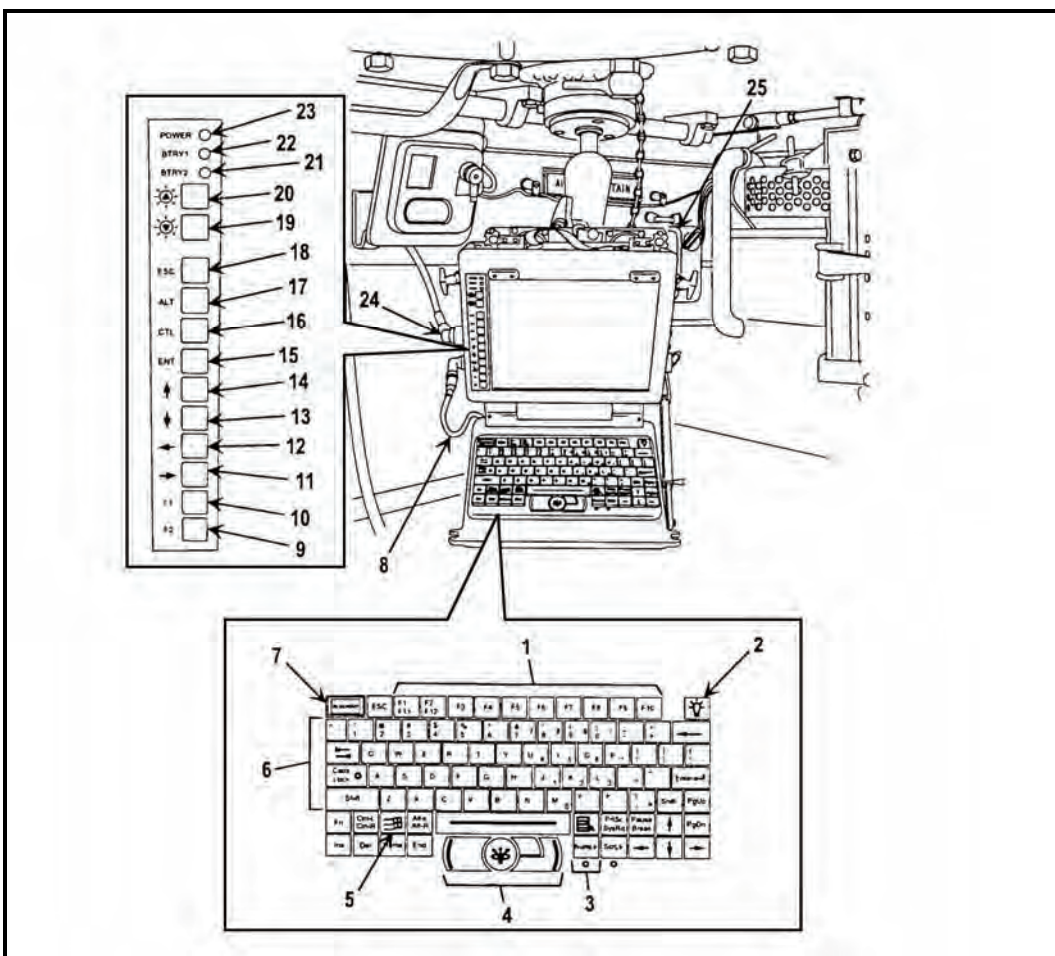

Figure 15-2. Commander's interface.
15-2. The CI (Figure 15-2) is a computer terminal that provides high-speed data processing, an LCD, and a QWERTY-style keyboard similar to that of a common personal computer. It has a built-in modem, allowing a wide variety of data exchange requirements. The operator works with the CI's graphic user interface (GUI) to operate the system using the built-in mouse or the keyboard to point and click buttons and tabs. Data are presented on screens designed for specific missions and operations. The CI's keys and their functions are as follows.
15-3. Although the primary method of operating the CI is the built-in mouse, the operator can use the F1 through F10 function keys (1, Figure 15-2) to make selections in the software (F11 and F12 are not used). Table 15-1 identifies the assignment of keys.
15-4. This control (2, Figure 15-2) adjusts the intensity of the light (with off, low, and high settings).
15-5. With blue numerals and arithmetic functions, these keys can be used as a number pad. Inadvertent use of the Number Lock (NUM LK) key (3, Figure 15-2) may result in the inability to perform other desired functions. When activated, the indicator light is illuminated.
15-6. The mouse (4, Figure 15-2) allows the operator to move the cursor on the screen and make selections.
15-7. The Windows key (5, Figure 15-2) is not used by the operator.
15-8. The alpha, numeric, and special character keys (6, Figure 15-2) function as a standard keyboard to compose messages and enable operators to enter data into the system.
15-9. The Blackout key (7, Figure 15-2) blacks out the screen to guard against enemy detection in a tactical environment.
15-10. The right, left, down, and up direction arrow keys (11 through 14, Figure 15-2) enable operators to make selections in the software. Mouse or keyboard use is recommended.
15-11. The Enter (ENT) key (15, Figure 15-2) brings up a menu of function keys.
15-12. The Control (CTL), Alternate (ALT), and Escape (ESC) keys (16 through 18, Figure 15-2) are not used in this application.
15-13. The screen brightness intensity buttons (19 and 20, Figure 15-2) decrease and increase the brightness of the LCD screen.
15-14. The Battery 1 (BTRY1, shown in 22, Figure 15-2) and Battery 2 (BTRY2, shown in 21, Figure 15-2) indicators illuminate with green light when the capacity of the respective battery is 50 to 100 percent of power, with amber light when capacity is 25 to 50 percent, and with no illumination when the capacity drops below 25 percent.
15-15. The Power indicator (23, Figure 15-2) illuminates with green light when the computer is being powered with external power (PDA, AC/DC adapter) and with amber light when battery power only is used.